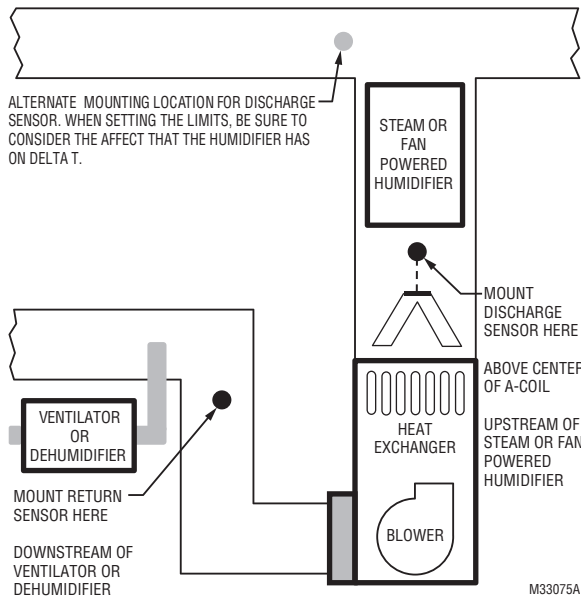

Fig. 11.
2. When possible, mount the Discharge Air Temperature Sensor upstream of a Steam Humidifier, a Fan Powered Humidifier or a Dehumidifier that is ducted to the supply. See Fig. 11–12.
3. If space does not allow a Discharge Air Temperature Sensor upstream of a Steam Humidifier or Fan Powered Humidifier, mount the Discharge Air Temperature Sensor downstream of the Humidifier. See Fig. 11. When setting the Delta T Limits (see “Set Delta T Limits” on page 90), be sure to consider the affect that the humidifier has on Delta T.